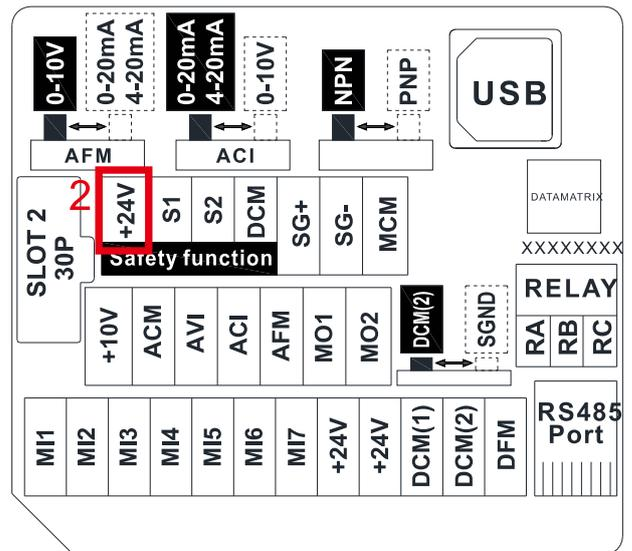

Figure 6-7 Control Terminal Location Map
2. Use the +24 V_{DC} power supply of the safety function (as shown in Area 2 in Figure 6-7) for STO only. Do NOT use it for other purposes.